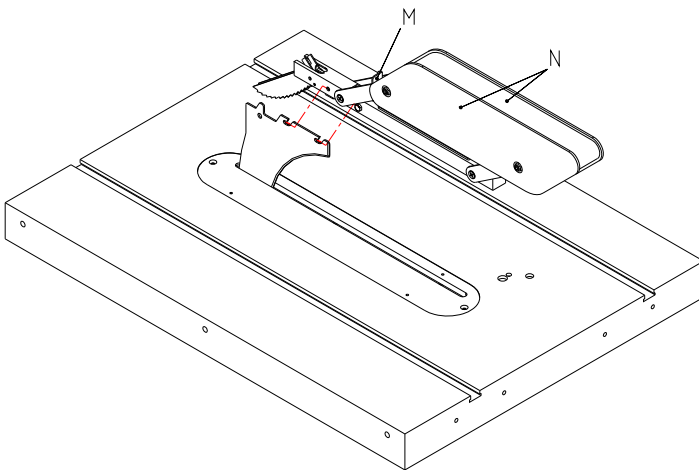
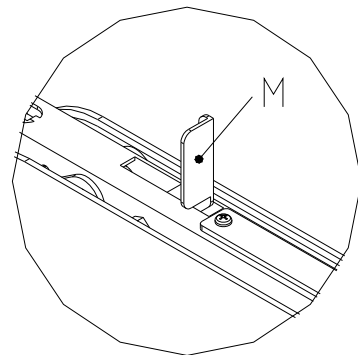

Fig.18
Fig.19
1. Before installation the blade guard, please confirmed Fig.18 the handle (M) keep on open as Fig.19.
2. Pull up the guards as Fig.18.
3. Insert the guards on the position O & P of riving knife as Fig.18.